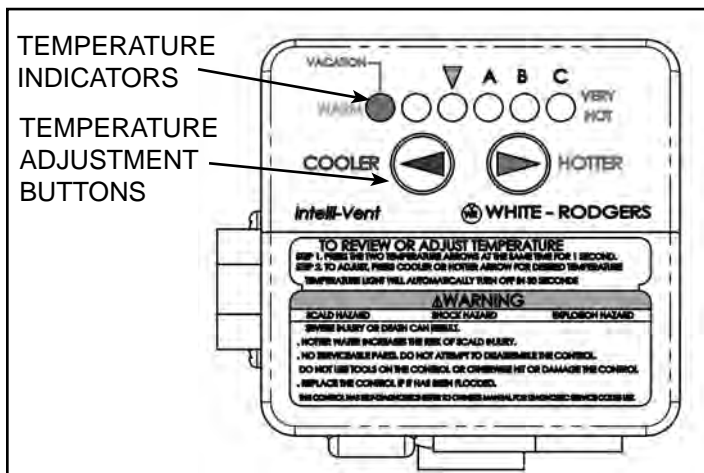
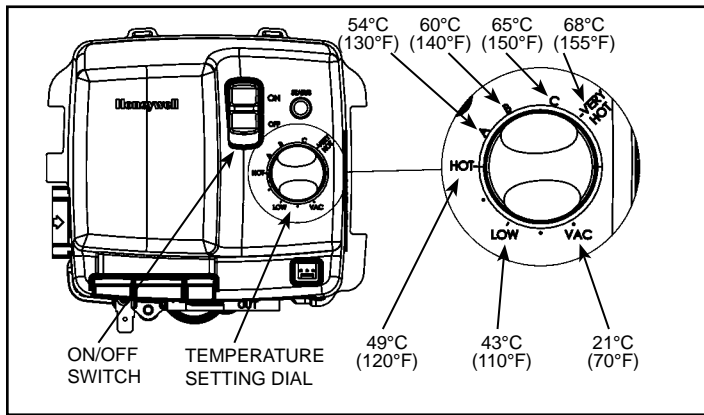

Figure 41
Figure 42
The temperature of the water can be selected by using the temperature adjustment buttons on the front of the gas control (see Figure 41) as follows:
1. Turn the gas control/temperature knob to the "OFF" position (see Figure 42 through Figure 41).